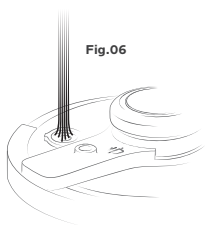

Fig.06
- Safety valve: wash it with running water, ensuring that the water passes through the valve (**Fig.06**). Check that the safety valve is unobstructed by gently pressing the valve plunger through the inside of the lid with a pointed object.